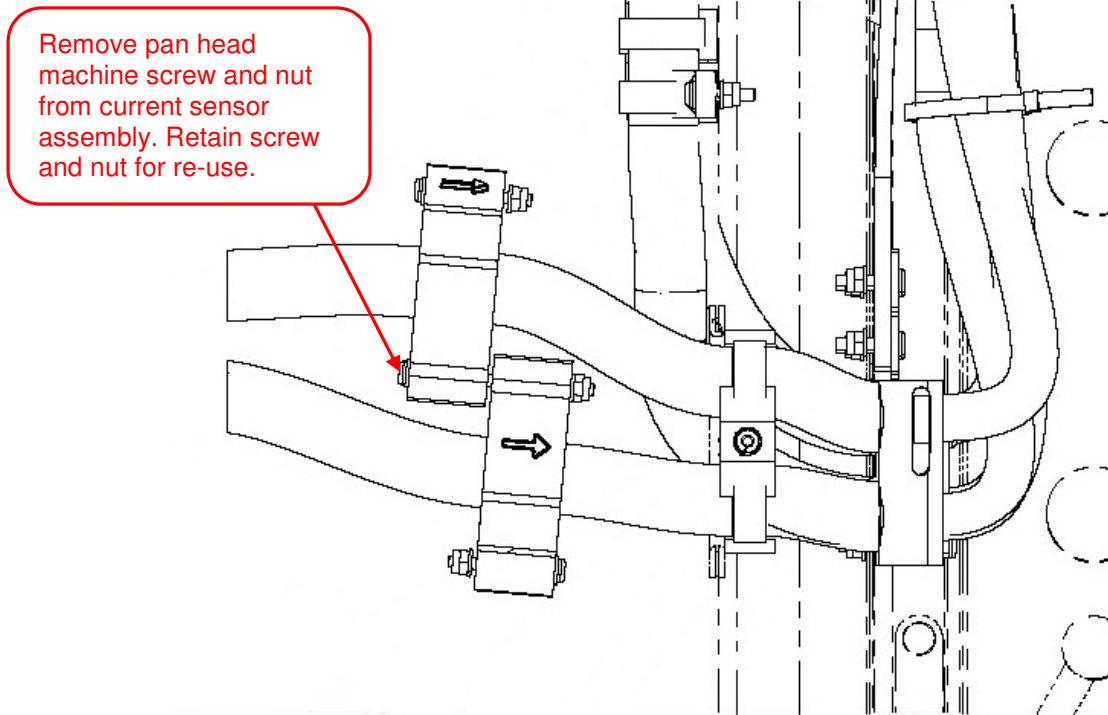

Figure 3: Current Sensor Assembly
6. Remove pan head machine screw and nut from current sensor assembly. Retain screw and nut for re-use. Refer to Figure 3.